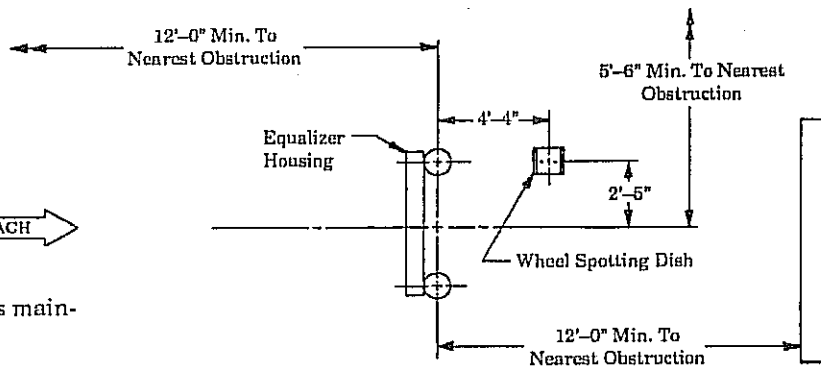
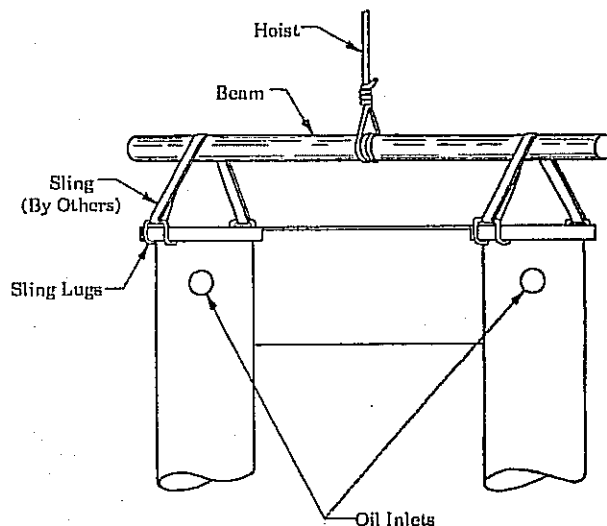

Fig. 1
Fig. 3
- LIFT LOCATION:** Check architect's layout if available. Lay out lift as shown in Fig. 1. The 5'-6" centerline to side and 12'-0" centerline to front and rear dimensions should be maintained to provide adequate working space. The minimum ceiling clearance should be 12'-6" from floor to underside of ceiling joists and other obstructions in the lift area. 24'-0" length bay recommended. Other lengths may be used, provided ample clearance is maintained at ends of lift.
Remove plunger shipping straps. Strap retainers serve as sling lugs for attaching chain hoist. Chain hoist must have capacity of 2,000 lbs. with a clear swing of 9'-0". Rig slings for each jack, Fig. 3, and lower assembly into hole. Do not swing assembly by equalizer housing because housing may become misaligned. Center jacks on concrete pad. Be sure equalizer housing is to the approach side of lift as shown in Fig. 1.
11. **FINAL TOUCHES:** Lag wheel spotting dish to floor using two $\frac{3}{8}$ " Phillips Red Head anchor sets or equivalent. See Fig. 1 for dimensions. Raise lift and clean sand and dirt from plunger and lift area. Oil plungers lightly.